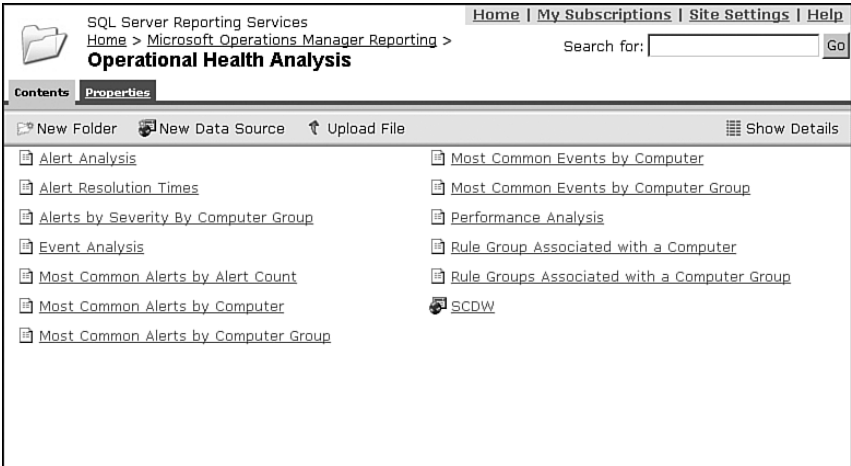

FIGURE 13.6 Operational Health Analysis reports.
- ▶ Identify rules that are generating the most activity and focus on understanding what is taking place. If MOM Reporting is installed and you are collecting data, Microsoft provides reports you can use to start investigating your most common events and issues, found under Microsoft Operations Manager Reporting \ Operational Health Analysis. Figure 13.6 lists the Operational Health Analysis reports available with MOM 2005.